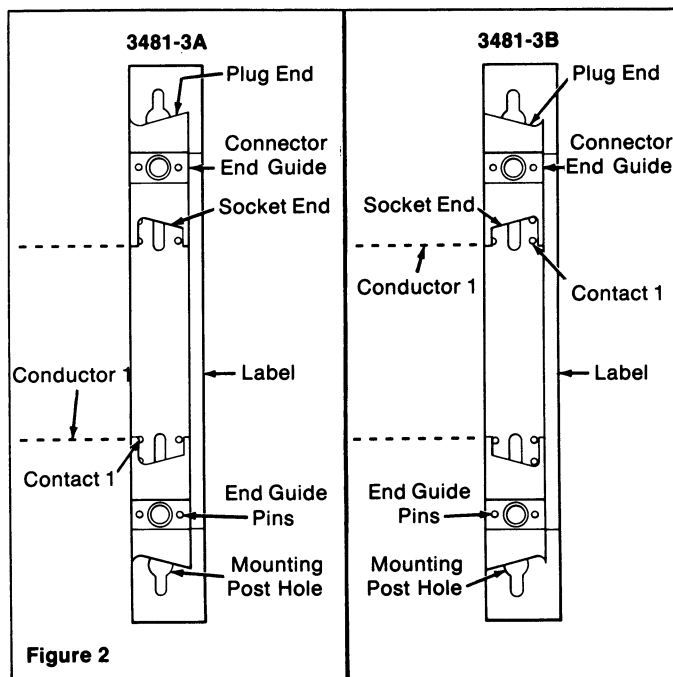

Figure 2
- Determine the cable direction, location of conductor #1, position of contact #1 (Figure 2), and select Connector Nest A or B.